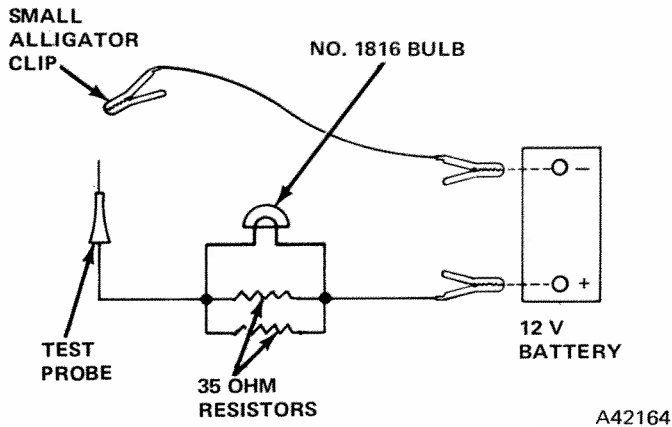

Fig. 3-25 Diode Heavy Load Tester
(1) Unsolder wires at diode trio. Use test apparatus as shown in figure 3-25.